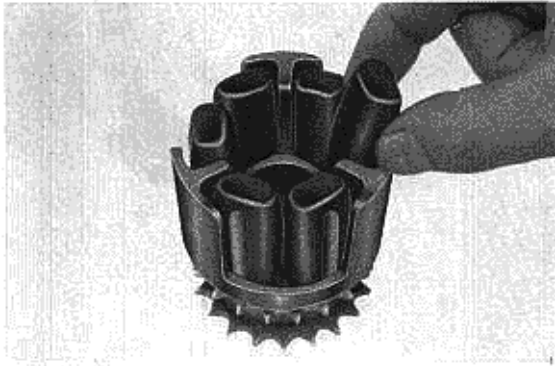

Fig. 4-19
* Install the primary drive sprocket dampers in the primary drive shaft as shown in Fig. 4-19.